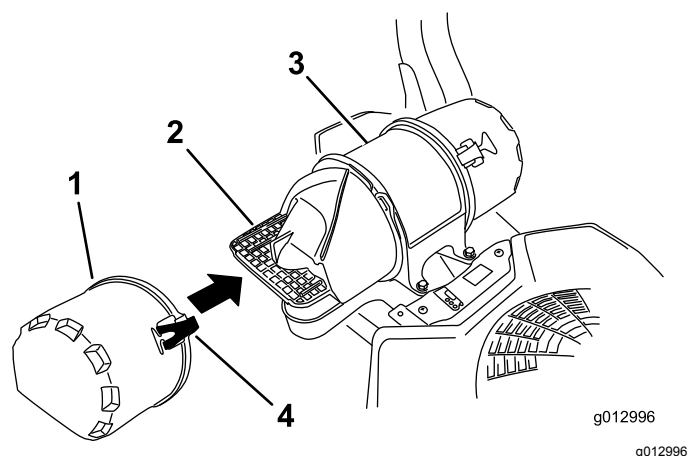

Figure 45
3. Release the latches on the air cleaner and pull the air-inlet cover off the air-cleaner body (Figure 45).
5. Install the air-inlet cover and secure it with the latches (Figure 45).